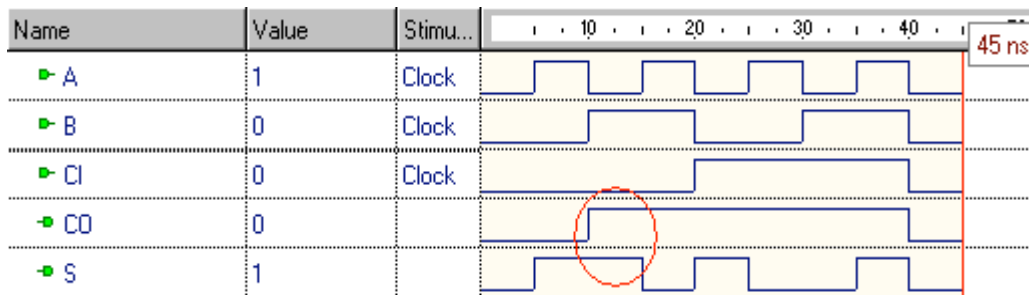

Figure 47
- Now we compiled the design, and it compiled successfully. Therefore, we initialized a simulation, added the signals to a waveform, provided clock stimulators for the signals, and simulated the design. Figure 47 shows the results of this simulation. When comparing the waveform to the expected results (we used a truth table), everything looked fine until we got to the 10 to 15 ns period. The sum should have been 1 and the carryout should have been 0, but both were 1. This showed us that there was a logic error.